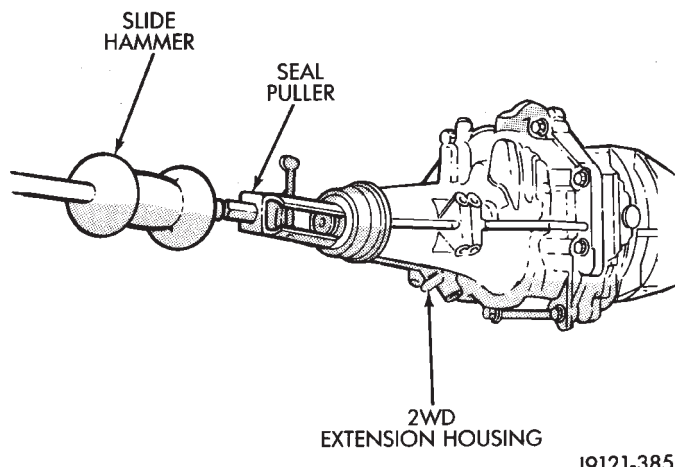

Fig. 12 Remove Extension Housing Seal
- (1) Raise and support vehicle.
- (2) Remove propeller shaft. Refer to Group 3, Differential and Driveline, for proper procedures.
- (3) Using a suitable seal puller or screw with a slide hammer, remove the extension housing seal (Fig. 12).